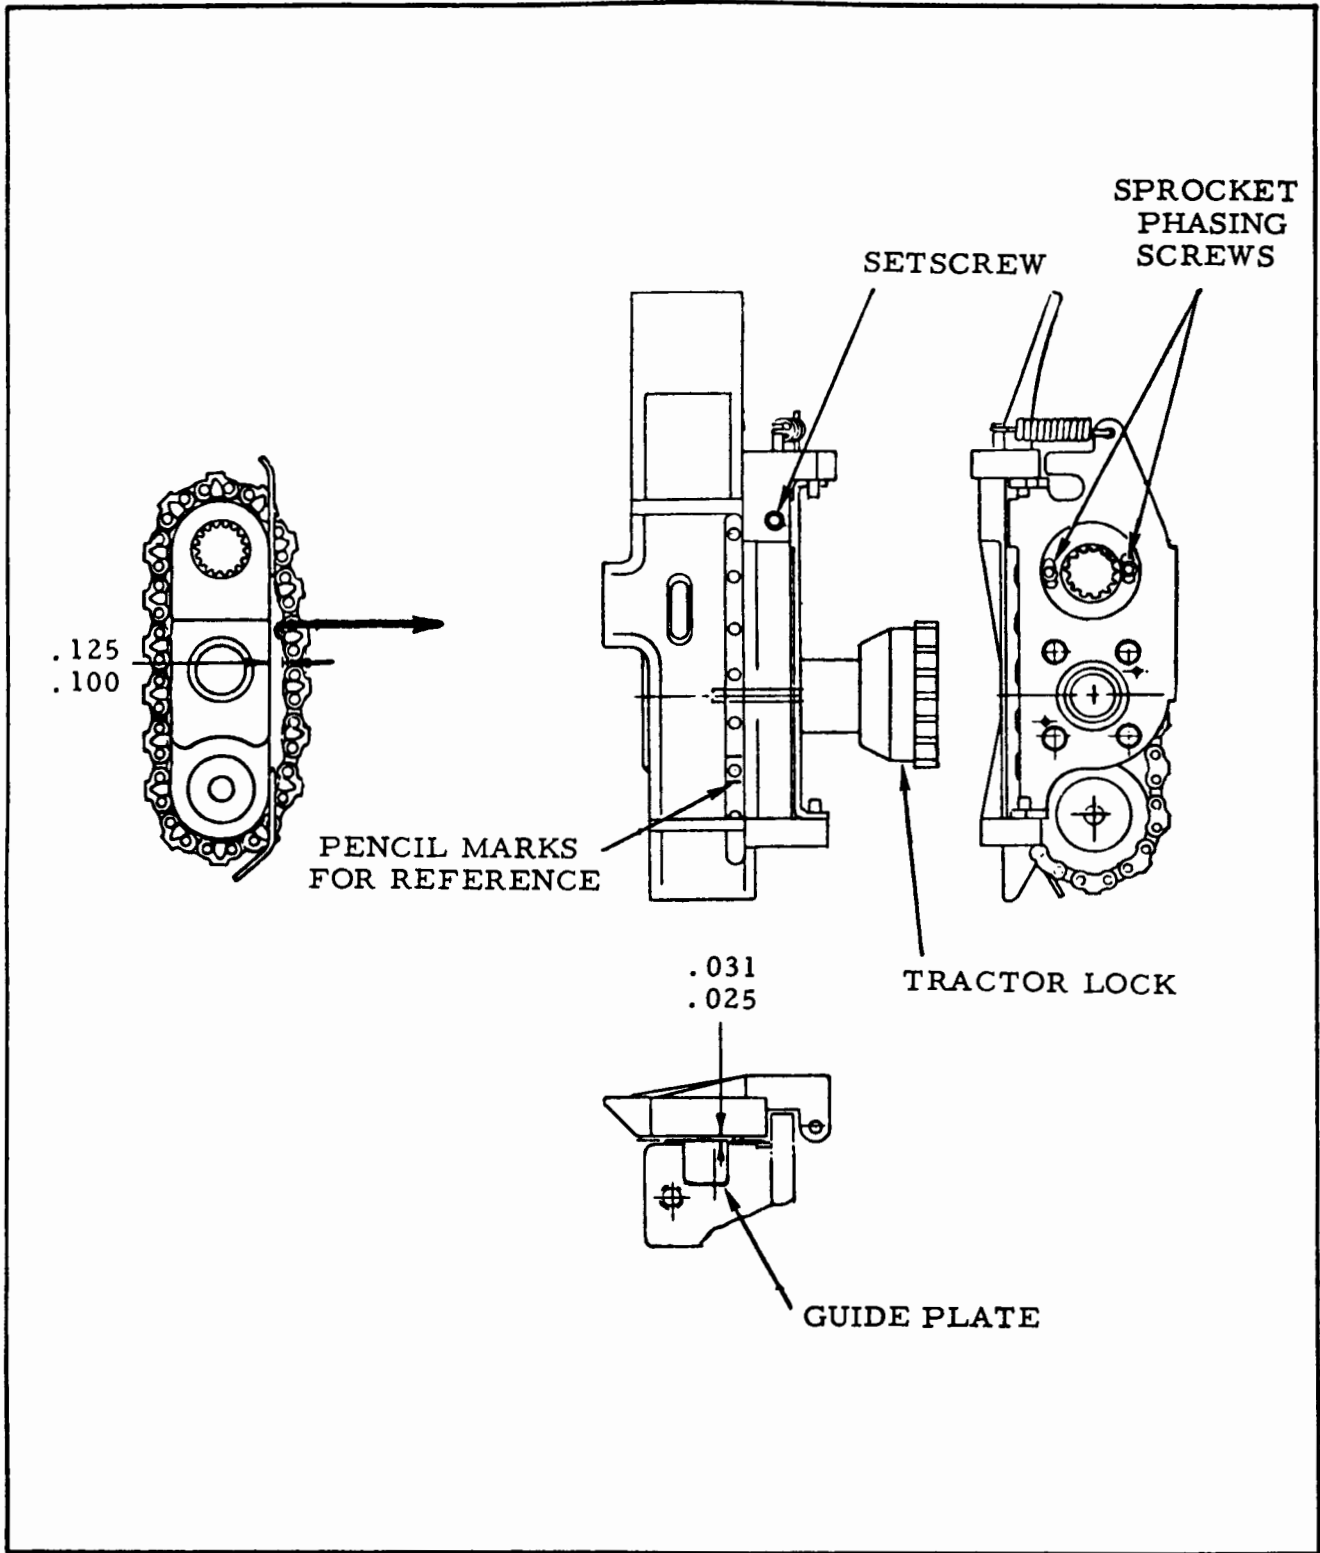

FIGURE 1
- d. With a force gauge, apply a force of 2 lbs at a point on the tractor chain link midway between the drive sprockets and in a direction away from the tractor body (Reference figure 1). Using a Feeler Gauge, measure the space between the chain and the tractor body directly under the feed pin at which the force is being applied. Dimension should be .100 (GO) .125 (NOT GO).
- (1) Loosen right hand tractor lock (figure 1).
- (2) Loosen one of the two sprocket phasing screws figure 1).
- (3) Rotate tractor spline shaft 180 degrees to provide access to second sprocket phasing screw.
- (4) Place pencil marks on tractor guide plate above and below one link of the tractor chain for reference (as shown in figure 1).
- (5) Loosen second sprocket phasing screw.
- (6) Using the reference pencil marks, raise tractor chain an amount equal to dimension "X" measured in step h.
- (7) Lock one sprocket phasing screw while holding chain in new position.
- (8) Rotate tractor spline shaft 180 degrees and lock second sprocket phasing screw.
- (9) If an insufficient amount of adjustment of the tractor chain prevents full movement to dimension "X", proceed to step J.
- (2) Loosen one of the two sprocket phasing screws (figure 1).
- (3) Rotate tractor spline shaft 180 degrees to provide access to second sprocket screws.
- (4) Place pencil marks on tractor guide plate above and below one line of the tractor chain for reference as shown in figure 1.
- (6) Using the reference pencil marks, lower the tractor chain an amount equal to dimension measured in step i.
- (9) If an insufficient amount of adjustment of the tractor chain prevents full movement to dimension "X", proceed to step j.